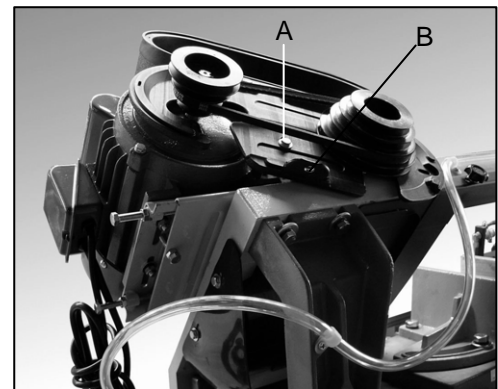

Fig. 3
5. Slide belt cover over pulley assemblies and fasten with screws and washer (A, Fig. 3).
6. Close belt cover and secure with lock knob (B, Fig. 3).